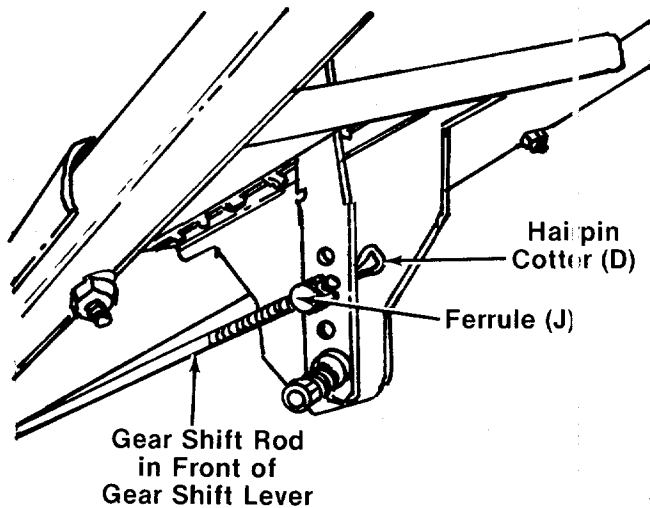

FIGURE 13.
4. Thread ferrule (J) on other end of gear shift rod. See figure 13.
5. Secure ferrule in gear shift lever as shown in figure 13 with hairpin cotter (D).